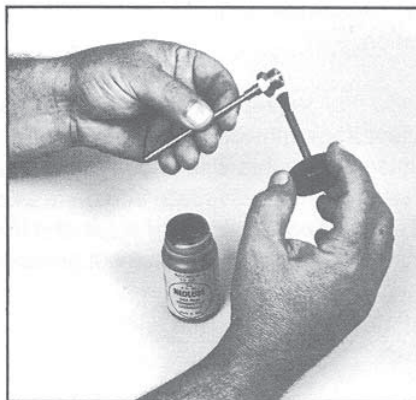

FIG. 3
1. With trim as shown in Figure 3, apply a coating of Neolube (graphite dry film lubricant), process permitting, to the threads and seating surfaces of the seat. Air dry for 30 seconds. Do not use any thread sealing compounds containing metal particles. NOTE: New replacement innervalves, come pre-coated with Neolube except those specially cleaned.